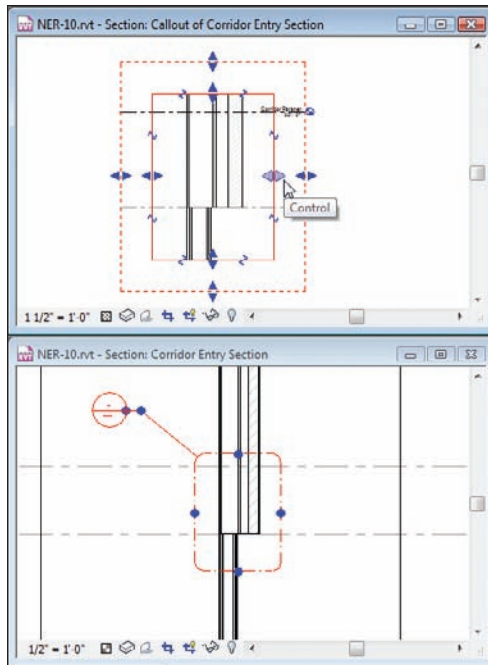

FIGURE 3.64 Modify the crop region by selecting it and stretching the grip.
Notice that the callout window is selected along with the crop region in your callout. That is because the two objects are one and the same (see Figure 3.64).
14. Stretch the crop region closer to the actual wall, as shown in Figure 3.64.